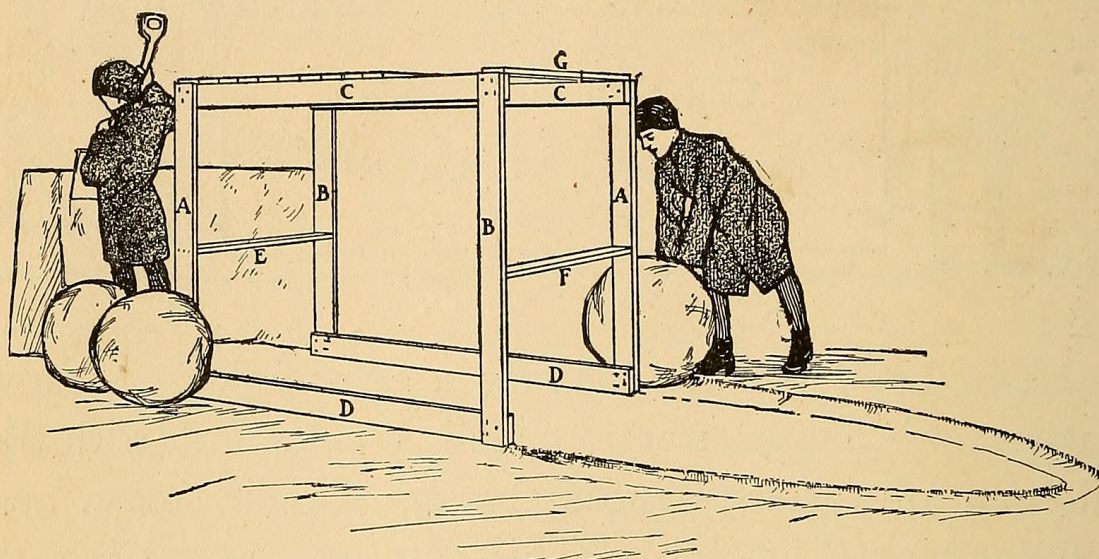
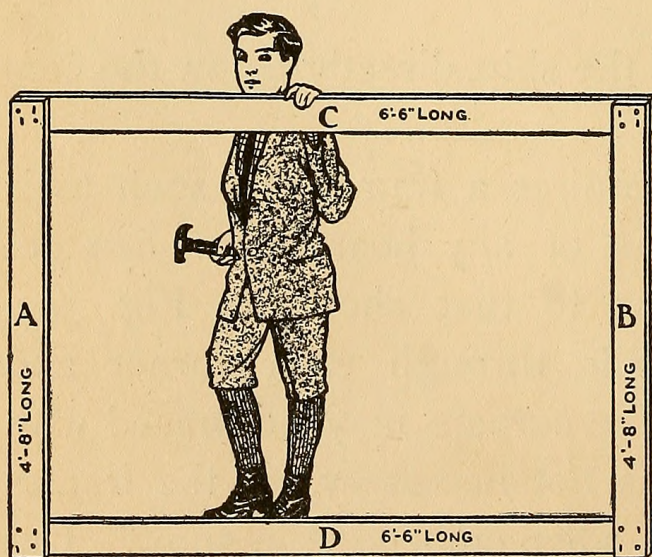

FIG. 361. — Framework of the Central Station.
FIG. 362. — Make Two Frames like This.
**The Central Station**, requires a framework such as is shown in Fig. 361. Out of any boards you can get make two frames similar to that shown in Fig. 362, driving three or four nails through each corner and clinching their ends. The corners may be braced with diagonal strips, but this is not necessary, for the frames will be held rigid enough when embedded in snow. Cut two boards 3 feet 6 inches long for the cross-pieces *E*
On the site selected for the battleship set up the two frames as shown in Fig. 361; fasten the cross-pieces *E* and *F* between them 2 feet above the ground, and nail roof board *G* in place; leave a space of 22 inches
for the conning-tower, then roof the rest of the top with the boards you have cut for the purpose (Fig. 361).
Figure 361 shows how the hull should be marked out in the snow with the sides converging toward the bow and stern. The inside of the bow should be about 7 feet from the central station framework, the inside of the stern about 4 feet from the framework. The illustration shows the stern end of the hull partly built up, and by this you will see how the sides should taper from a thick base to a thinner wall at the top. The inside of the walls should be straight, so as not to make the inside space too small, but you will find it much easier to build the wall roughly and then finish it off with a shovel afterward.